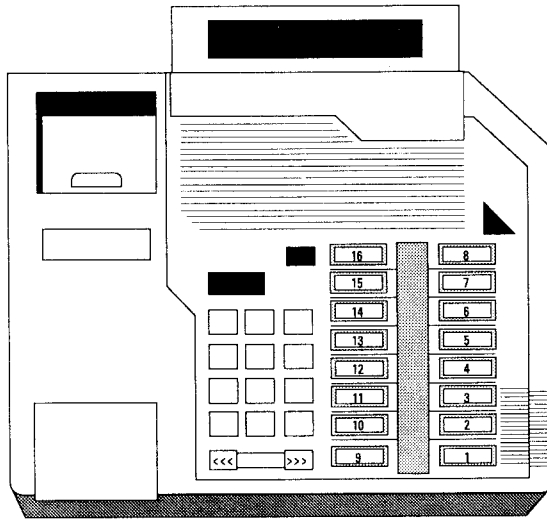

Fig. 1 – Model M2616 (SL1, M1 or SL100)
- 2000 series main set Figs. 1 and 2
Figs. 1 and 2 show the numbering sequence for line buttons on a Meridian M2616. All other models follow the same numbering scheme but may have fewer line buttons/feature keys.